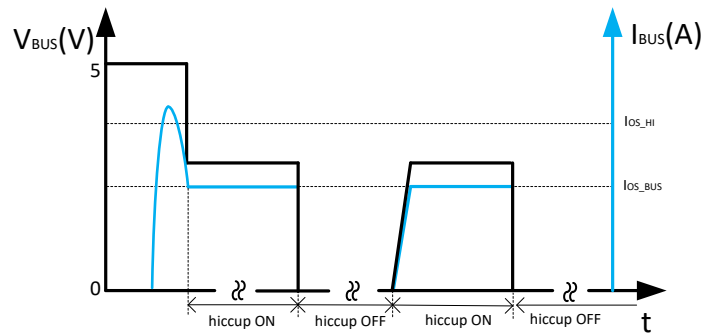

图 10-7. BUS Overcurrent Protection: Two-Level Current Limit
- The third condition is the load current increases just over the I_{OS_HI} setting. In this case, the load current does not trigger the fast turnoff. The USB power switch current limit threshold is set back to the primary current limit, I_{OS_BUS} , immediately. If the load still demands a current greater than I_{OS_BUS} , the USB output voltage decreases to $I_{OS_BUS} \times R_{LOAD}$ for a resistive load, which is shown in 图 10-7. If the overcurrent limit condition lasts longer than 4.1 ms, the corresponding USB channel enters hiccup mode with 524 ms of off-time and 4.1 ms of on-time. Another USB channel still works normally.